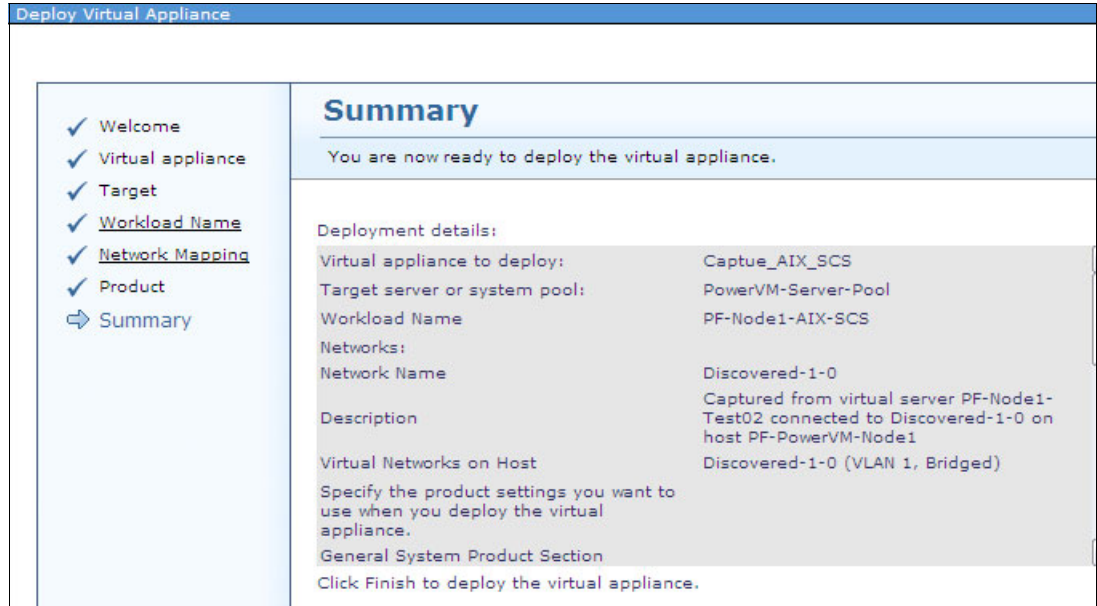

Figure 10-156 Summary window
8. Figure 10-156 shows the summary. Click **Finish**.